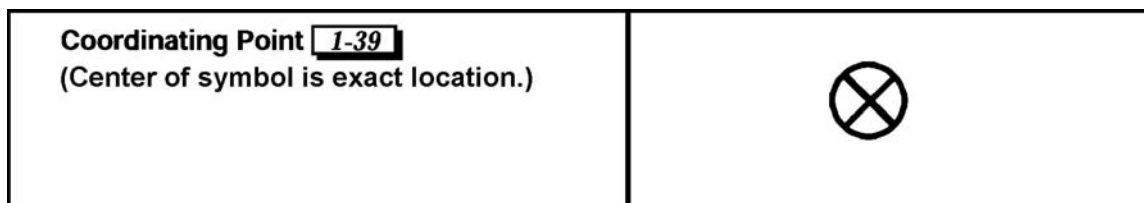

Figure 23. Coordinating point.
- (5) Delay lines (DLs). These indicate where a succeeding delay position is located. Delay positions (other than initial) are drawn the same, except that the letter abbreviation is along the line, and none are placed to the flanks at the coordinating points.
- (6) Coordinating points.
- (c) The symbol for a coordinating point is shown by a circle with an "X" centered in it (Figure 23). The symbol is labeled as appropriate.